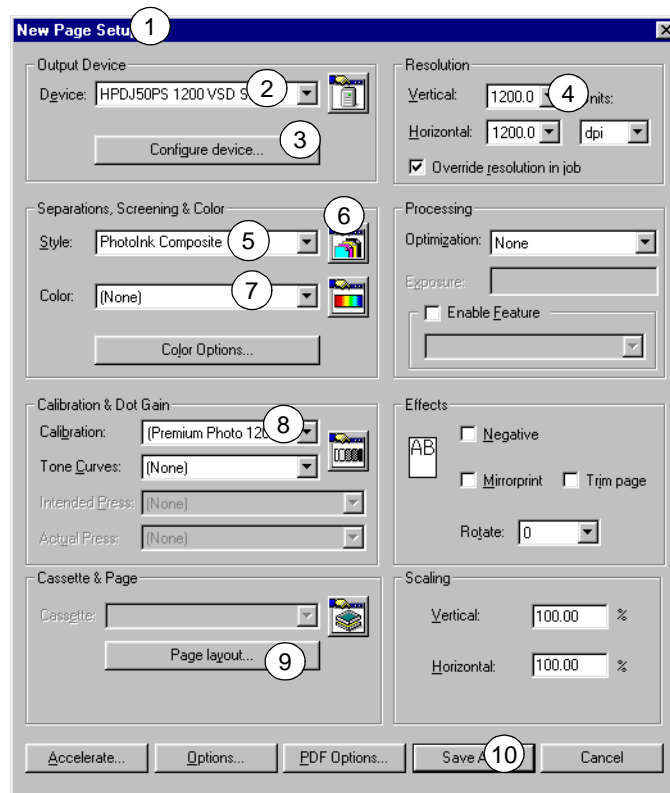

Figure 2. Creating a page setup in a pre-v6 release RIP
- ① In the Torrent RIP, open the Page Setup Manager: **Torrent > Page Setup Manager**. Click **New** to open the New Page Setup dialog, as shown in Figure 2..
- ② From the **Device** menu choose the device that you want to use. Refer to Table 1. on page 19 for a list of devices supported by the plugin.
- ③ Click **Configure device** to modify configuration settings as desired. See “Plugin device configuration” on page 13 for details.